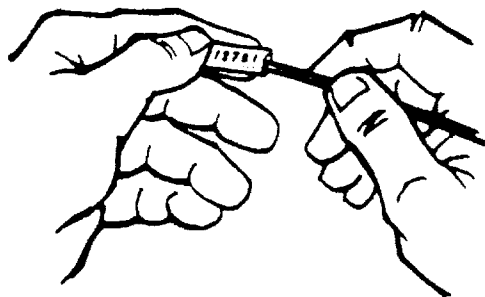

Figure 27. Inserting Wire Into Marker
- b. Hold marker, printed side up, and press end of wire on lip of sleeve to open sleeve (Figure 27).